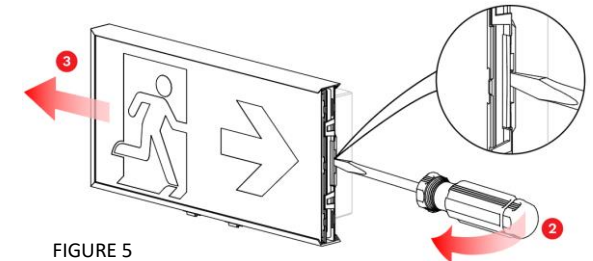

FIGURE 5
3. Using a flat screwdriver, insert screwdriver (see Figure 5) and rotate away from the wall to disengage clip